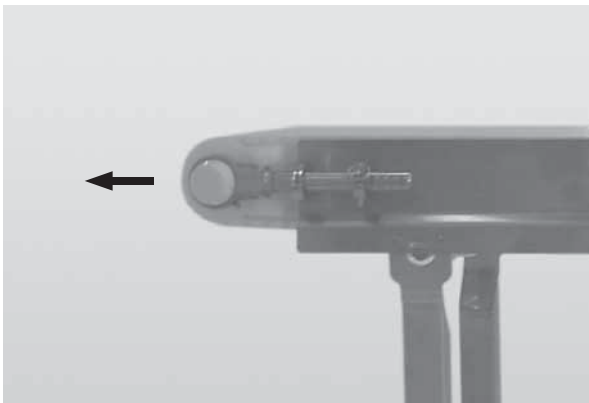

Figure 47
9. Extend the tension end to remove excess slack in the belt (**Figure 47**).